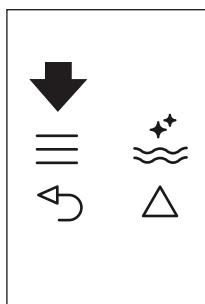
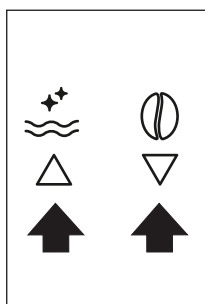

Fig. 22
Fig. 9
- ▶ Press the ☰ icon (B2) to enter the menu (Fig. 22). Press the icons △ ▽ (B7) and (B8) (Fig. 9) until "PROGRAM COFFEE" is displayed.